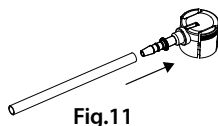

Fig.11
3. Connect the beer hose supplied with the dispenser to one of the Heineken adapters also supplied with it (Fig. 11).